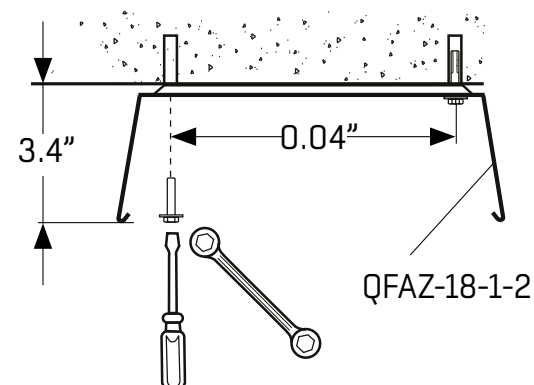

FIGURE 3
- 2) Fastening brackets shall be provided for rod installation (See **FIGURE 3**). These brackets will have a snap type connection with the beam that will allow for the beam to be repositioned along the length of the supports. The brackets will have oval mounting holes which will allow for the beam to have fine adjustment perpendicular to the length beam while the angled bracket will have gross adjustment along the same adjustment path.
- 2) Snap the NOVA IQFI into the fastening bracket. (See **FIGURE 3**)